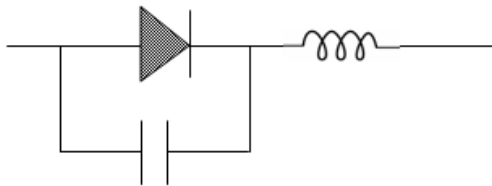

Figure 12: RC Snubber circuits.
**Snubber circuit:** A snubber circuit, which is also known as capacitive protection circuit (as shown in figure 12). It is used to restrict the reverse recovery voltage ( $V_{rr}$ ). Snubber circuits increase the overall power loss in the circuit since the energy stored in the snubber capacitor is dissipated in the snubber resistance during turning ON of the diode.